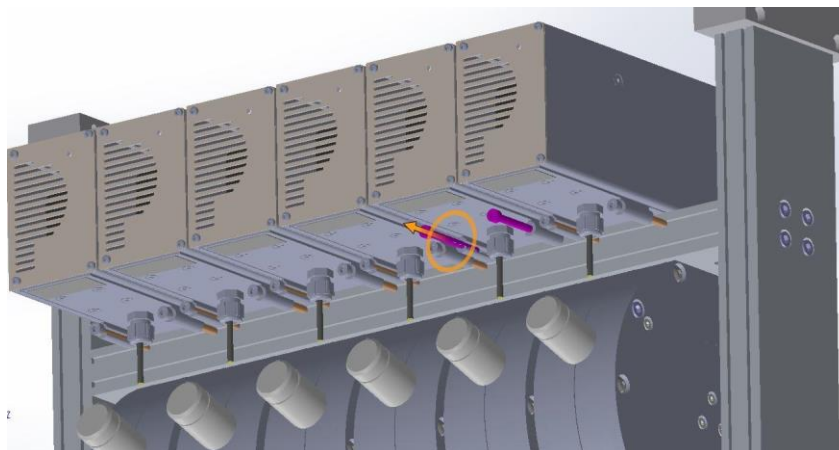
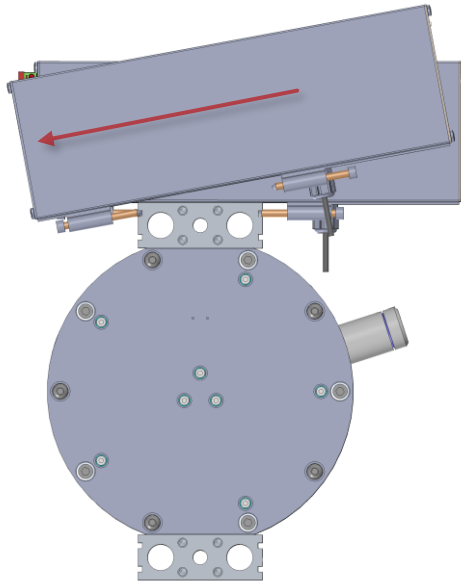

Figure 55 Remove a MiniSEPT
Figure 56 Move the MiniSEPT gently backward
4. Loosen the two screws at the bottom of the MiniSEPT, see Figure 55. Gently move the MiniSEPT backward so that it is separated from the connection bar, see Figure 56.